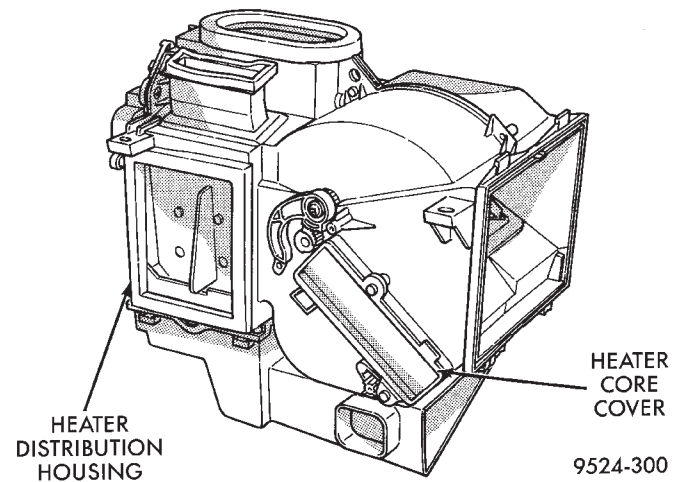
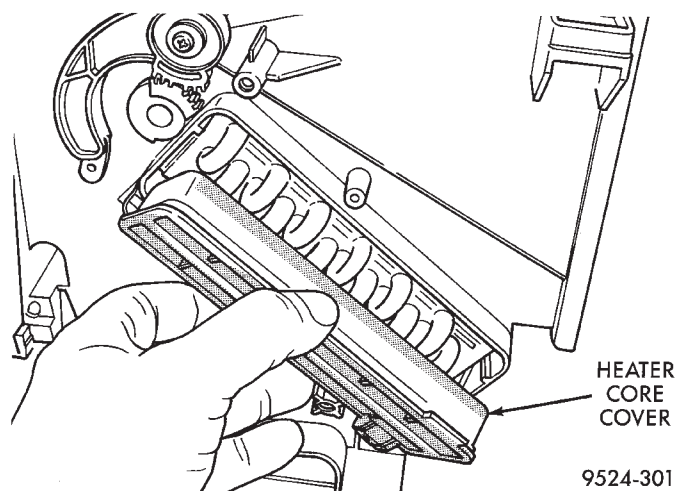

Fig. 93 Heater Core Cover
Fig. 94 Heater Core Cover Removal
(24) Remove heater core cover (Fig. 93) and (Fig. 94).